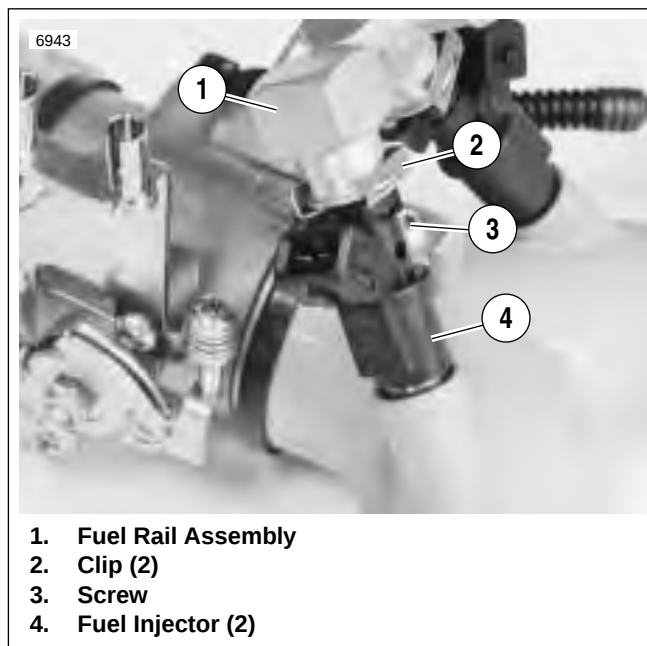

Figure 4-97. Installing Injectors
2. See Figure 4-97. Install fuel injectors.
- b. Install both injectors (4) into intake manifold.
- c. Press the fuel rail (1) onto the top of the injectors.
3. Snap the injector clips (2) over the flange on the fuel rail outlet and into the top groove in the injector.